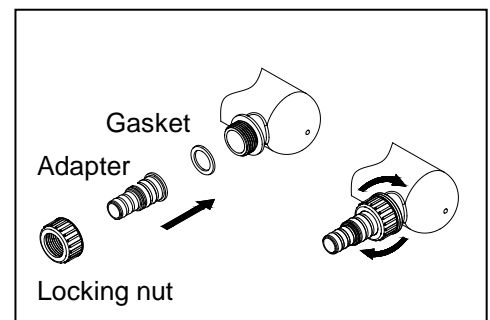

Fig.2
2. Install the adapter gasket, adapter, and adapter locking nut onto the inlet and outlet of the lamp housing. Fig.2